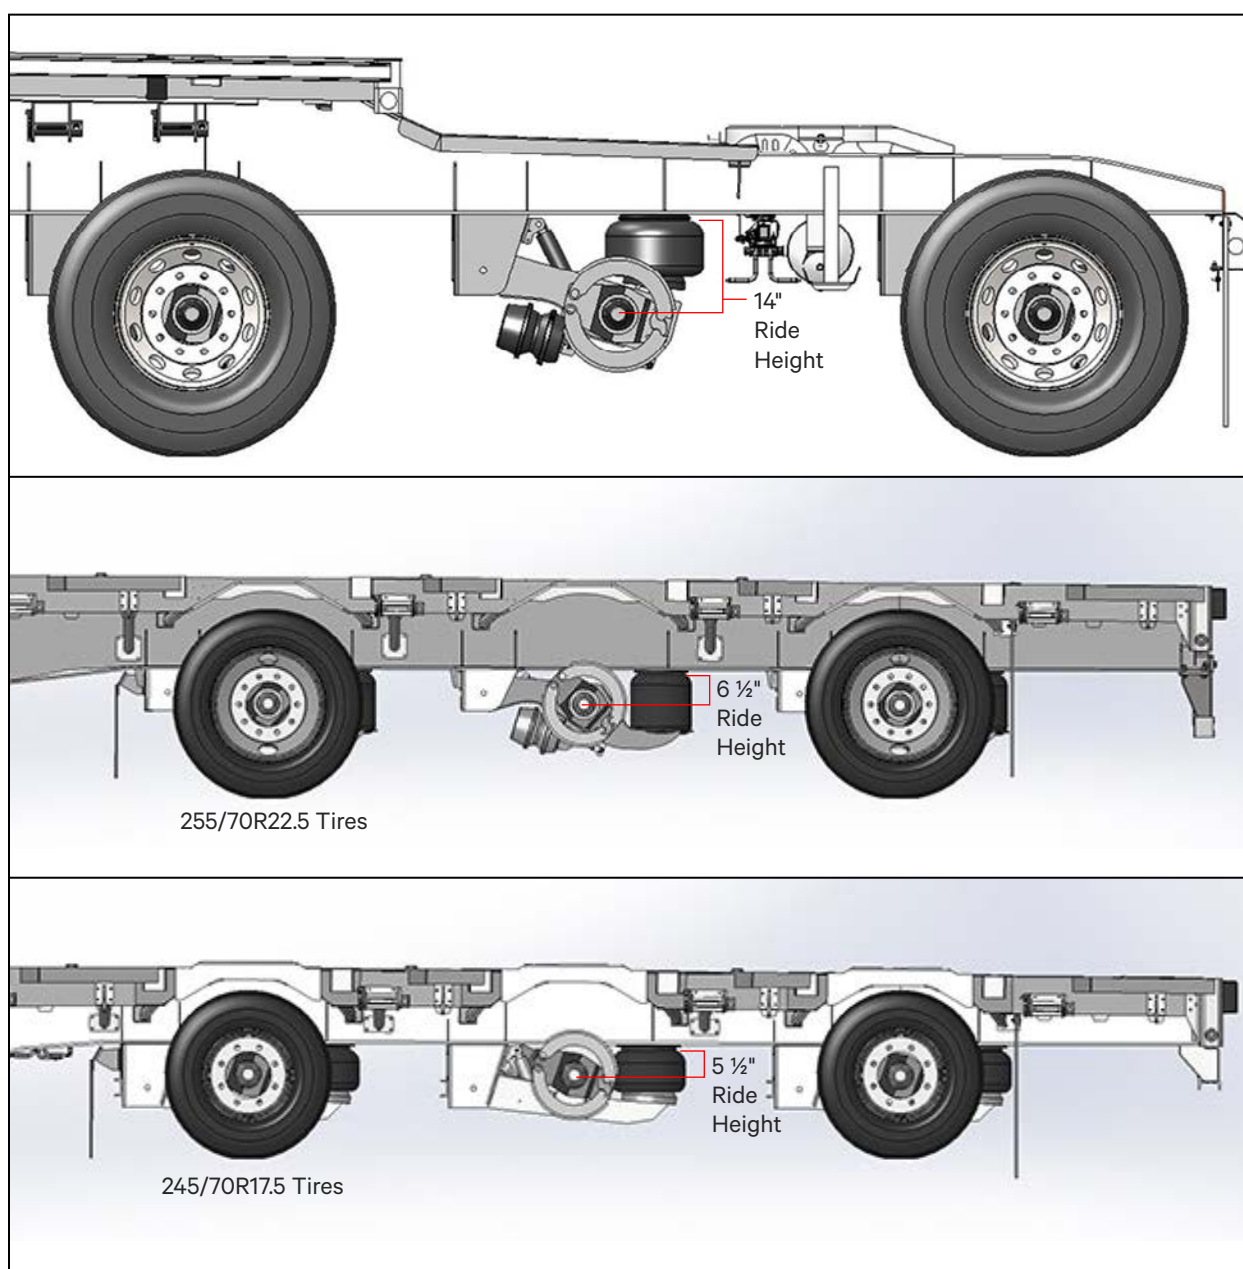

Figure 27 – Suspension Ride Height Setting
To ensure continued performance from the air ride suspension it is important to check that the axles are operating at the correct ride height. This check requires a tape measure. Figure 27 illustrates how to measure the ride height. All Lead, Pull and single semi trailers use a 14" ride height suspension. Step deck trailers use a 6 ½" ride height with 255/70R22.5 tires or 5 ½" ride height with 245/70R17.5 tires..
- g. Ride height is defined as the distance from the suspension mounting surface (bottom of trailer frame) to the centre of the axle tube. Since there is no way to measure to the centre of the axle, simply measure to the top of the axle tube and then add half the diameter of the tube. Most Flat and Step Deck Trailers use 5 3/4" diameter axles, therefore, add 2 7/8" to the tape measured distance to arrive at your actual ride height. See Figure 27.